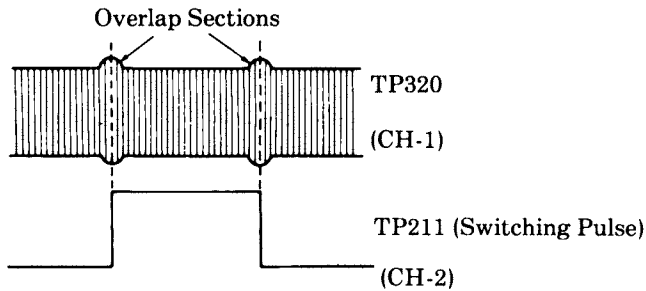
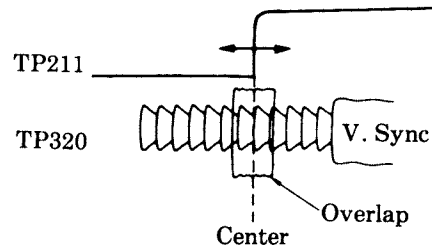
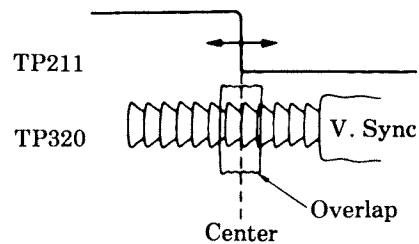

Fig. 17
Fig. 18
Fig. 20
2. Tuning the TV delay time control of the oscilloscope, obtain the waveform shown in Fig. 20. (downward transient of pulse).
4. Tuning the TV delay time control of the oscilloscope, obtain the waveform shown in Fig. 18. (upward transient of pulse).
<ol style="list-style-type: none"> <li>1. Disconnect the connection to playback amplifier from control board and connect a dual trace oscilloscope (CHOP mode) probes to TP211 (CH-2) and TP320 (CH-1).</li> <li>2. Playback the reference tape.</li> <li>3. Adjust R236 and R262 for the relationship as shown in Fig. 17.</li> <li>4. After adjusting, reconnect the connection in the original state, and make sure that no switching gap noise occurs at the video head switching position with observing the playback picture on the monitor TV.</li> </ol> <p>or,</p> <p>If TV DELAY mode is available: Head switching can be adjusted completely by the following method.</p> <ol style="list-style-type: none"> <li>1. Operate the oscilloscope as follows: HORIZONTAL DISPLAY: NORM → TV DELAY mode, TIME/cm: 5 msec. → 0.2 msec.</li> <li>2. Tuning the TV delay time control of the oscilloscope, obtain the waveform shown in Fig. 20 (downward transient of pulse).</li> <li>3. Adjust R236 so that the downward transient of pulse (TP211) comes to the center of the overlap.</li> <li>4. Tuning the TV delay time control of the oscilloscope, obtain the waveform shown in Fig. 18 (upward transient of pulse).</li> <li>5. Adjust R262 so that the upward transient of pulse comes to the center of the overlap.</li> <li>6. After adjusting, reconnect the connection, observe the playback picture on the monitor TV, and make sure of no switching gap noise at the head switching position.</li> </ol> <p>For Early type Effective till Serial No. F5HC21050 (NV-2110M) F5HE21100 (NV-2120) G5HC21080 (NV-2125)</p>